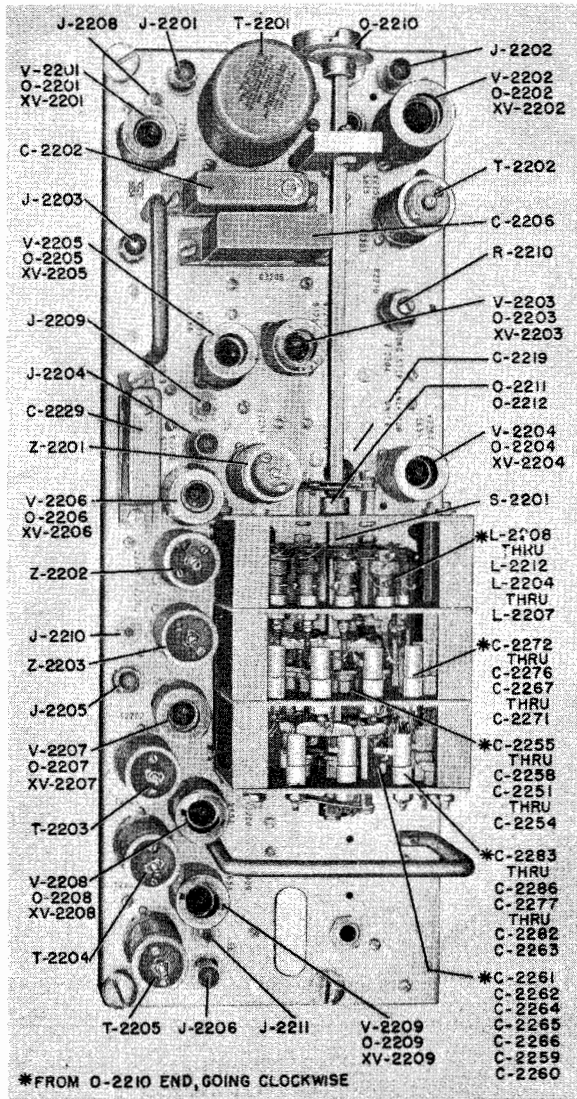

Figure 7-28. RFO, Unit 6 (Z-2204), S-2201 Cover Removed, Top View
n. ELECTRONIC FREQUENCY CONVERTER, UNIT 6 (Z-2204), TROUBLE SHOOTING.—The electronic frequency converter (unit 6), figures 7-28 and 7-29, has three inputs and three outputs. Two of the outputs can be checked by means of an external oscilloscope (OS-8A/U or equivalent), enabling an operational check of unit 6 at two points. Signal 6c is the 10-kc output of blocking oscillator tube V-2202A (12AU7), which can be checked by means of an oscilloscope at the 10 KC jack on the RFO front panel. If this signal is not present, tube V-2201 (5654) or V-2202 (12AU7) is probably at fault. Signal 6a is the 210- to 300-kc output of the oscillator stage, which can also be checked by means of an oscilloscope at the 10 KC STEP jack on the front panel of the RFO. If signal 6a is not present, check tubes V-2203 (5725), V-2204
(1) ELECTRICAL ADJUSTMENTS.—All adjustments on unit 6 are factory adjustments with the exception of R-2210 and C-2219 (figure 7-28). The factory adjustments should not be tampered with unless the adjustable component has been changed or complete alignment is required because of poor operation of unit 6, as determined by the trouble location diagram method outlined in figure 7-120.
(a) R-2210 ADJUSTMENT.—Whenever tube V-2202 is replaced, or a complete alignment of unit 6 is undertaken, potentiometer R-2210 (figure 7-28) must be adjusted as follows:
(f) T-2203, T-2204, T-2205 ADJUSTMENT.—The 10.4-10.5-mc filter adjustments are the top and bottom slugs of transformers T-2203, T-2204 and T-2205 (figure 7-28) and are adjusted whenever a complete alignment is required or a component in the filter circuit has been replaced.